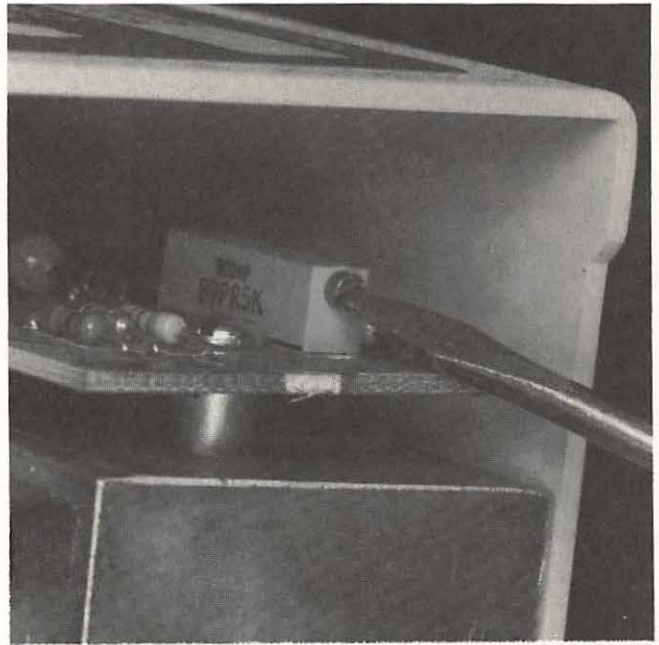

**Fig. 8-18.** Remove the four Phillips head screws.
6. Remove the four Phillips head screws as shown in Fig. 8-18.